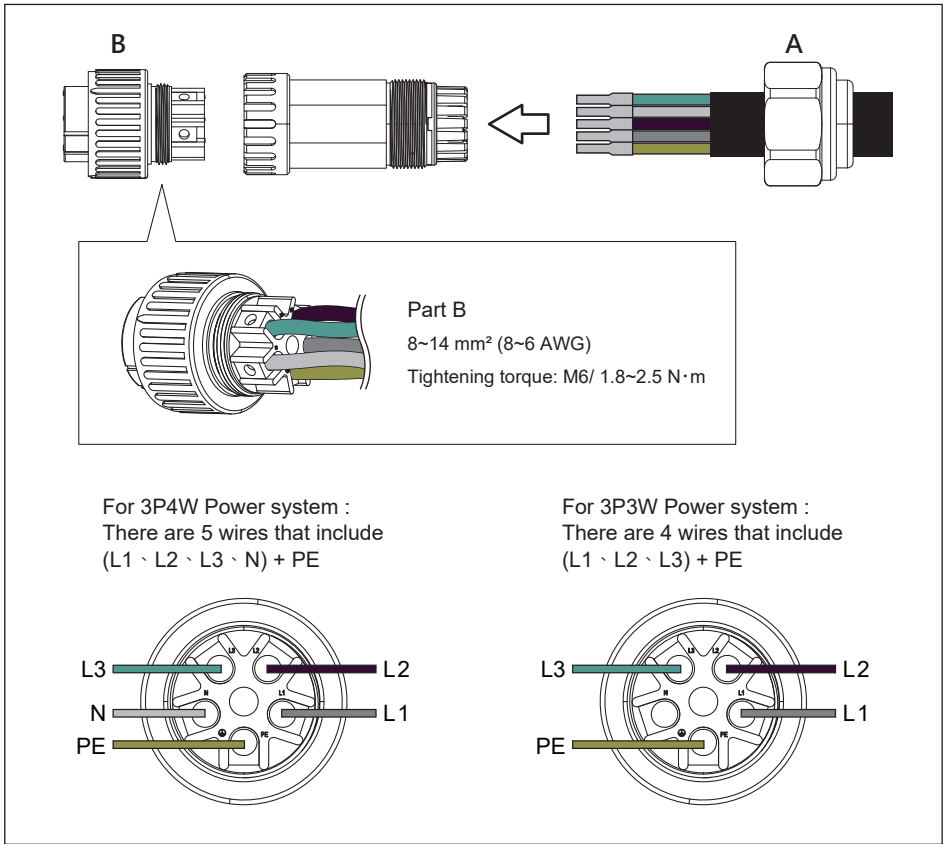

Figure 3-11 : AC wiring
2. Insert the cable into Part A (AC gland), and fix the internal wires (tighten by $\Phi 2.5\text{mm}$ wrench with $1.8\sim 2.5\text{ N}\cdot\text{m}$ torque) into Part B. **(Figure 3-11)**